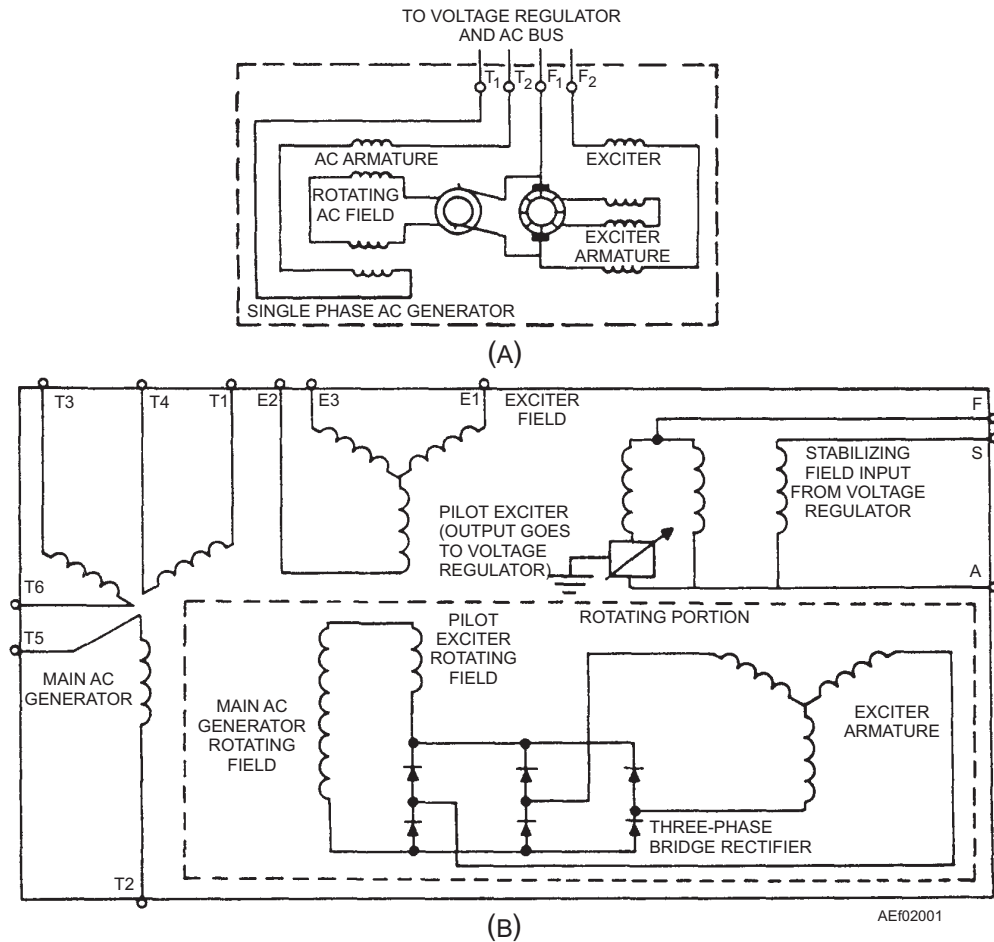

Figure 2-1.—Ac generators. (A) brush type; (B) brushless type.
The generators shown in figure 2-1(A) and 2-1(B) use an electromagnetic field rather than a permanent magnet-type field.